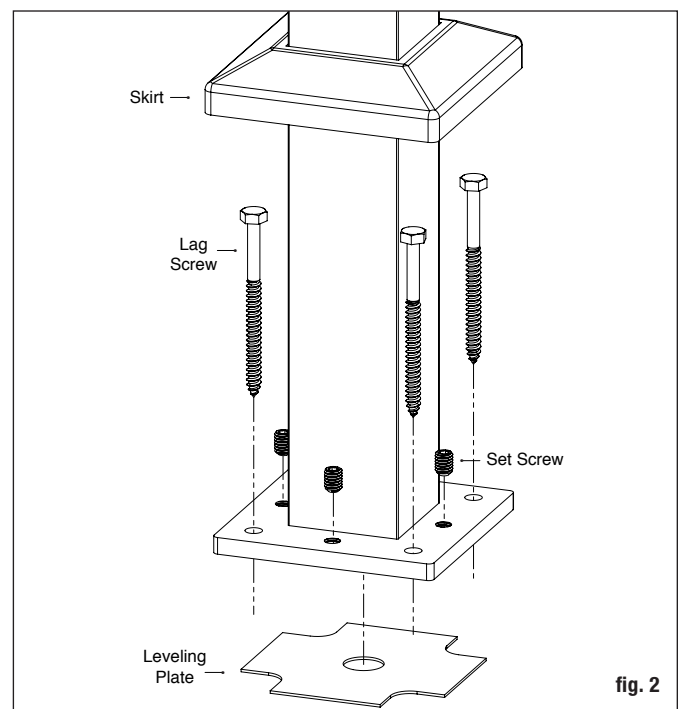

fig. 2
Step 3 Reposition the post assembly with the leveling plate inserted between the deck and the post base, and aligned with the predrilled holes. Insert the post fasteners (**NOT INCLUDED**), and partially tighten. Using a level, adjust the leveling set screws with a 3/16" allen wrench until the post is plumb. Fully tighten the post fasteners to secure the base to the deck structure (fig. 2).